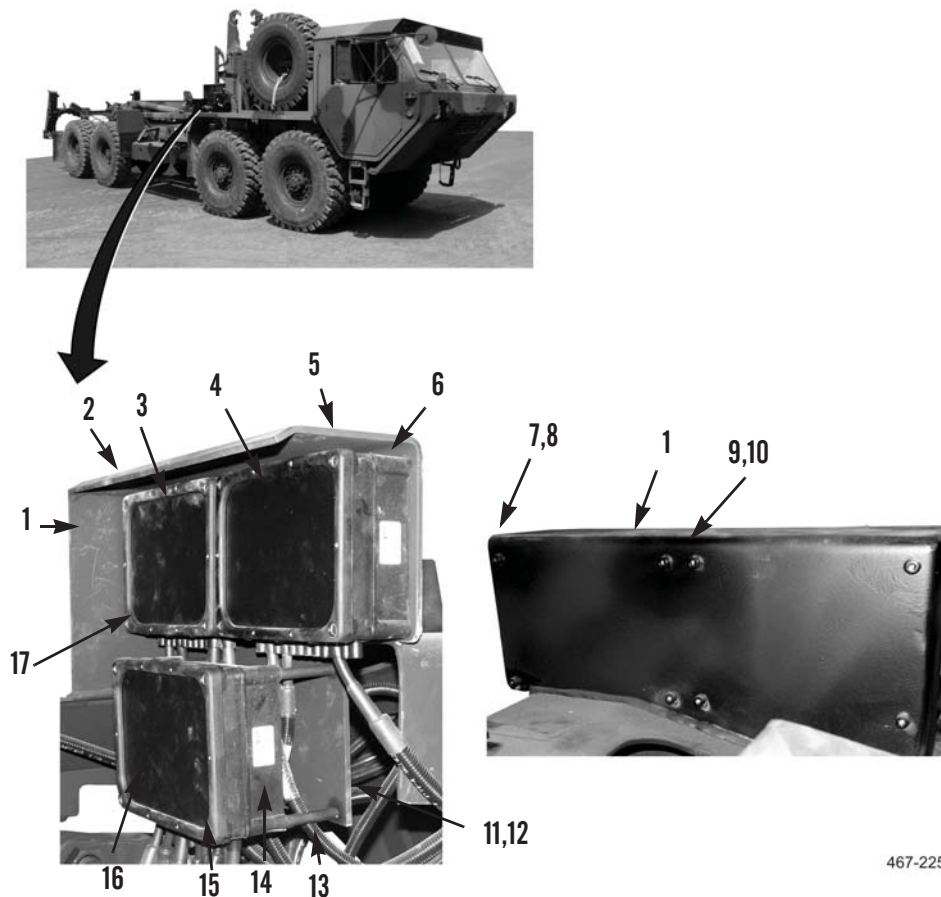

Figure 18. Control Box Installation.
1. Install Relay box (Figure 18, Item 17), four washers (Figure 18, Item 10), and bolts (Figure 18, Item 9) on support bracket (Figure 18, Item 1).
2. Install Additional MUX box (Figure 18, Item 6), four washers (Figure 18, Item 8), and bolts (Figure 18, Item 7) on support bracket (Figure 18, Item 1).
3. Install Space 4000 ST box (Figure 18, Item 14), four spacers (Figure 18, Item 13), washers (Figure 18, Item 12), and bolts (Figure 18, Item 11) on support bracket (Figure 18, Item 1).
4. Install cover (Figure 18, Item 4) and tighten four bolts (Figure 18, Item 5) on Additional MUX box (Figure 18, Item 6).
5. Install cover (Figure 18, Item 3) and tighten four bolts (Figure 18, Item 2) on Relay box (Figure 18, Item 17).
6. Install cover (Figure 18, Item 16) and tighten four bolts (Figure 18, Item 15) on Space 4000 ST box (Figure 18, Item 14).